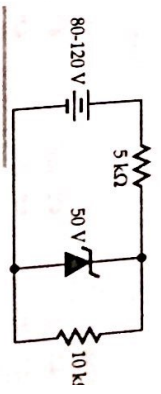

Figure 4.28
4.8 For the circuit shown in Fig. 4.28. Find the maximum and minimum values of Zener diode current. [Ans. $(I_Z)_{\text{max}} = 9\text{ mA}$ and $(I_Z)_{\text{min}} = 1\text{ mA}$]